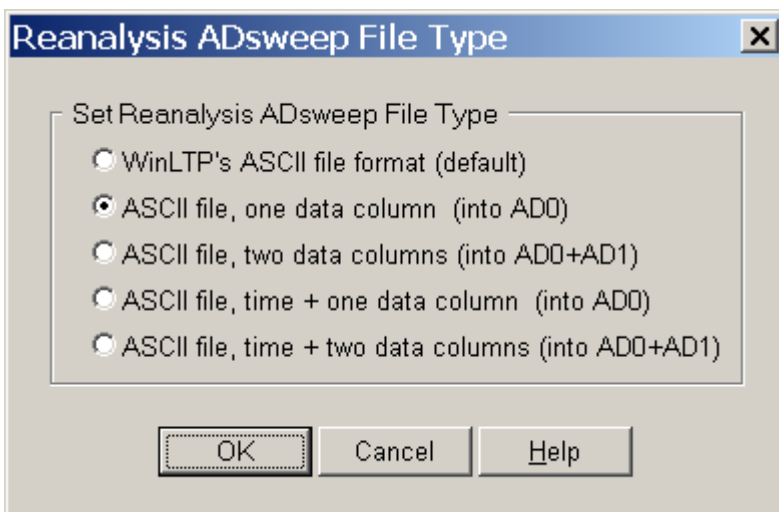

Fig. 14.10.1.2. The **Reanalysis ADsweep File Type** dialog box.
The WinLTP Reanalysis program can also reanalyze general ASCII ADsweep files (Fig. 14.10.1.1.). This figure shows the analysis of two EPSC Peak Amplitudes, and the patch electrode series resistance (R_s) and the cell input resistance (R_m). Because there is no stimulation information in a general ASCII ADsweep file, the WinLTP has to provide this stimulation information. It does this by using a 'stimulus template' and choosing the **source of stimulation information from Screen Fields** rather than the Disk File (see Section 14.5).
This calls up the **Reanalysis ADsweep File Type** dialog box (Fig 14.10.1.2). This allows you to change from the default WinLTP's ASCII file format (see Fig. 15.1.1) to 1) one data column ASCII, 2) two data columns ASCII, 3) a time column (on the left) plus one data column ASCII, or 4) a time column (on the left) plus two data columns ASCII.
Fig. 14.10.1.1. WinLTP reanalysis of general ASCII ADsweep files with or without a header. This figure shows the analysis of two EPSC Peak Amplitudes, Rs (by using capacitive transient peak), and Rm. The RsRm1 step is used to provide the timing for when the Rs/Rm stimulus pulse occurs. The Num Header Lines To Skip at the bottom of the Reanalysis Protocol section is used to skip the first 64 lines of this file header. This sweep has been low-pass digitally filtered.
1. Got to the Reanalysis Edit Protocol dialog box and set the **ADinterval** (in usec) at which the acquisition was obtained (right side of Fig. 14.10.1.3).
2. In the Reanalysis Edit Protocol dialog box set the **AD DataType Units** (usually mV or pA) for each column (e.g. AD channel) in the ASCII ADsweep file (left side of Fig. 14.10.1.3).
4. Set the Number of Header Lines to Skip (**NumHdrLines to skip** in Fig. 14.10.1.1)
Fig. 14.10.1.3. The simplified Edit Protocol dialog box used in the Reanalysis program when analyzing straight ASCII files (with or without a header). In addition to the AD0 and AD1 Data Type Units, Gain, Units/V and mV/Unit fields (see Fig. 14.4.2), the Reanalysis sweep sample interval field is also used.